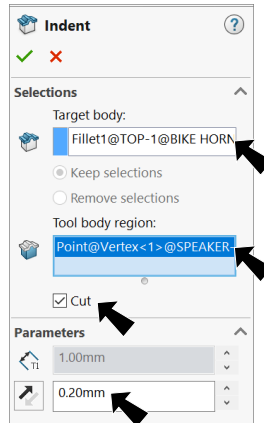

Fig. 13
Step 4. In the Indent Property Manager: under Selections, **Fig. 13**